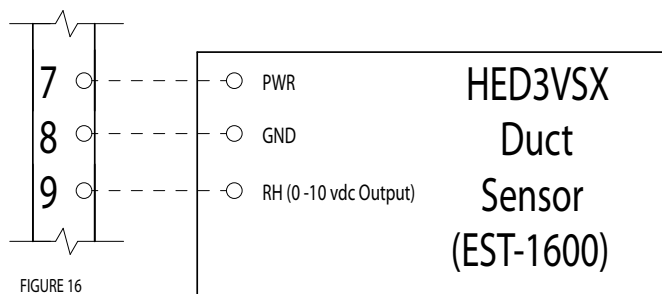

FIGURE 16
- c. VDC (See Fig. 16)
- a. VDC sensor input (See Fig. 16).